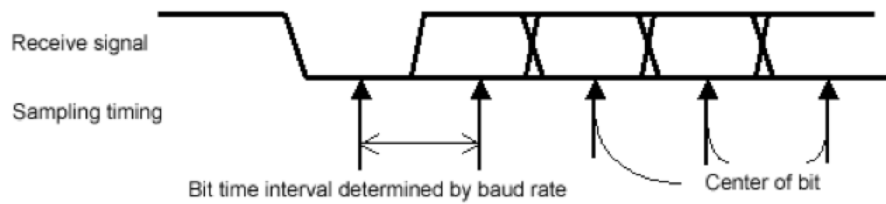

Figure 2: UART Packet Structure
UART packets can be sent from the transmitter at any point in time, and there can be any amount of time in between packets, hence the **asynchronous** nature of this communication link. In order to achieve synchronization with an incoming packet, the communication wire idles in the HIGH (1) state in between packets. Since the START bit is always a LOW, we know a packet has begun when this transition occurs. After we synchronize to the start of a packet, we use the known baud rate to estimate the center of each data bit, and sample the voltage of the signal at this point. In figure 2 below, we illustrate the start of a packet and the data-bit sampling interval.